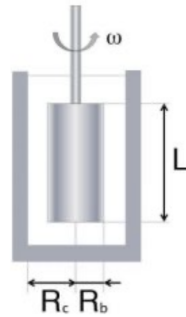

Figure 3.10: Co-centric cylinder rheometer.
- No moving surface, so no direct analog to Figure 3.10.